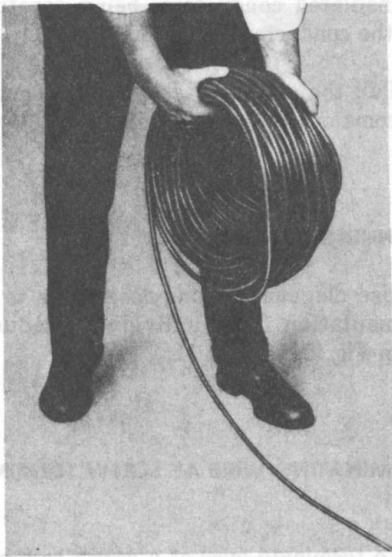

Fig. 3—Paying Out Cable
2.03 To pay out station cable, remove cable from coil by paying it off from outside of coil (Fig. 3).